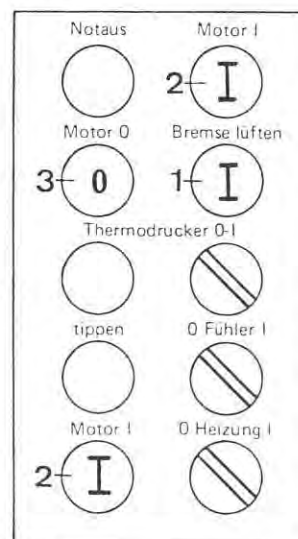

Fig. 86
6. Switch on the master switch and press the „Vent Brake“ button (Figure 86/1).
8. Switch on the machine by pressing the button (Figure 86/2). Operate the machine without load for some time and observe it.
9. Switch off the machine by pressing the button (Figure 86/3).